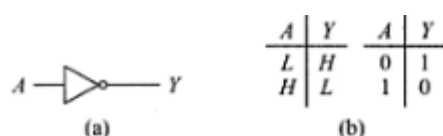

Figure 2.1: (a) Truth Table (b) Inverter Symbol
- It is a gate with only 1 input and a complemented output (Figure 2.1).